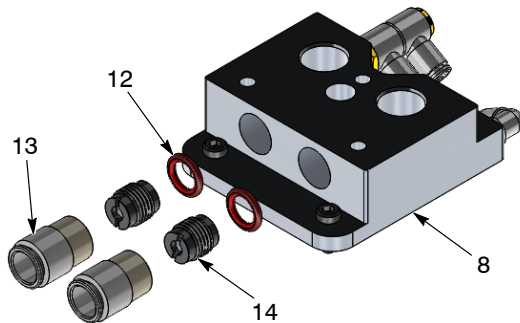

Figure 7 Middle Block Disassembly
- See Figure 7. Remove two fittings (14) from each middle block (8).
- See Figure 7. Remove two check valves (14) from each middle block (8). Use a finger to remove the two O-rings (12) from each middle block.
**NOTE:** Figure 7 only shows two of the four fittings and check valves to be removed.
See Figure 7.